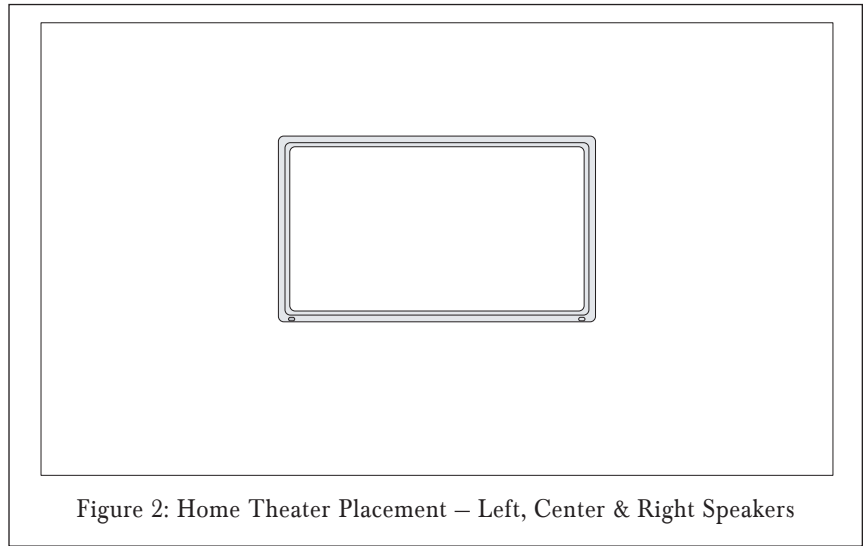

Figure 2: Home Theater Placement – Left, Center & Right Speakers
- The main listening position should be between 8 and 12 feet away from the speakers. Use *Figure 2* as a guide.